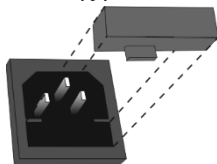

Figure 7. Fuse replacement
11.4. **Fuse replacement.** Disconnect from electric circuit. Remove the power plug from the rear side of the unit (fig. 1/2). Pull out the fuse holder by applying leverage in recess (figure 7). Remove the fuse from the holder. Check and replace with the correct fuse, if necessary, **M** 3.15 A for 230 V and **M** 6.3 A for 120 V (type **M** - time lag: **Medium**).